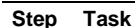

Fig. 2: Fixed Mast Bracket
- 1 Adjust the fixed and adjustable mast brackets for either 15.6 inches (396 mm) or 23.4 inches (594 mm) center-to-center antenna spacing, as shown in Fig. 2 and Fig. 4. Refer to the materials list shown in Fig. 1 to properly identify the required items for all steps.
- 2 Attach the fixed mast bracket to the top mounting braces for downtilt, or top mounting braces for uptilt, as shown in Fig. 2 and Fig.3.